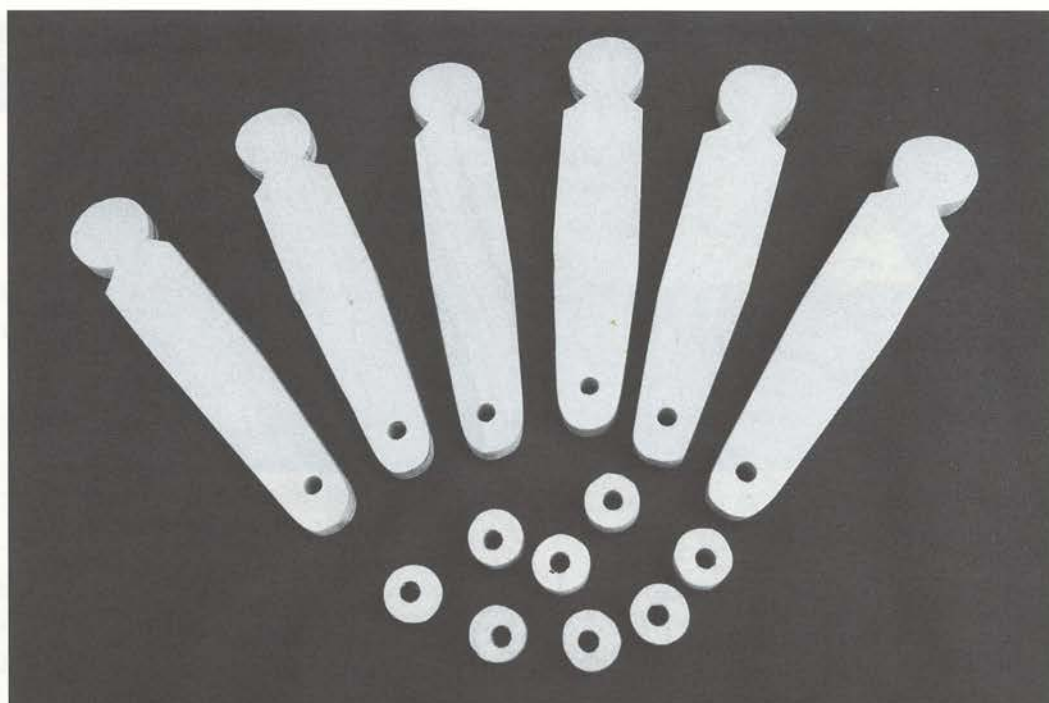

Fig 7.6 The skittles (H) and spacer discs (I) sawed to shape and drilled.
Fig 7.6 shows the sawn and drilled skittles (H) and spacer discs (I).